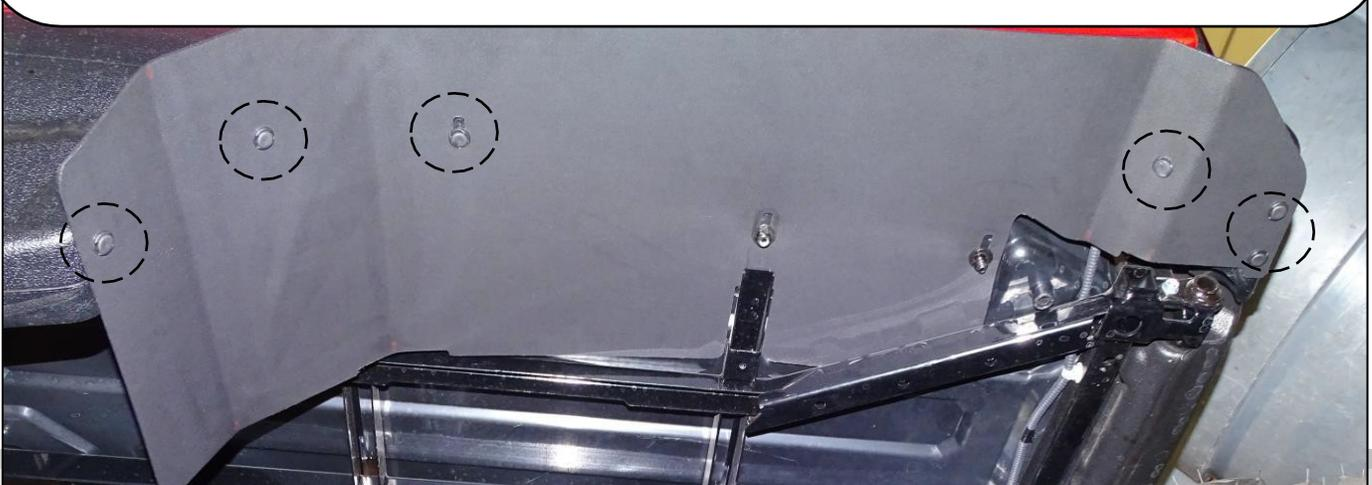

Figure 2
- 5) Insert (1) 1" bolt with a washer from the top of the dump bed into the holes that you just drilled (Figure 2).